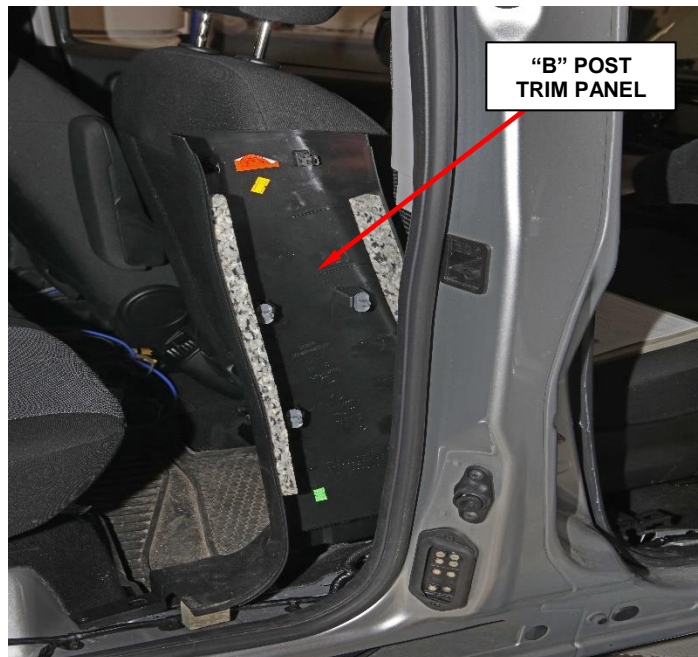

Figure 8 – “B” Post Trim Panel
8. Remove the trim from the inside of the lower B-pillar (Figure 8).